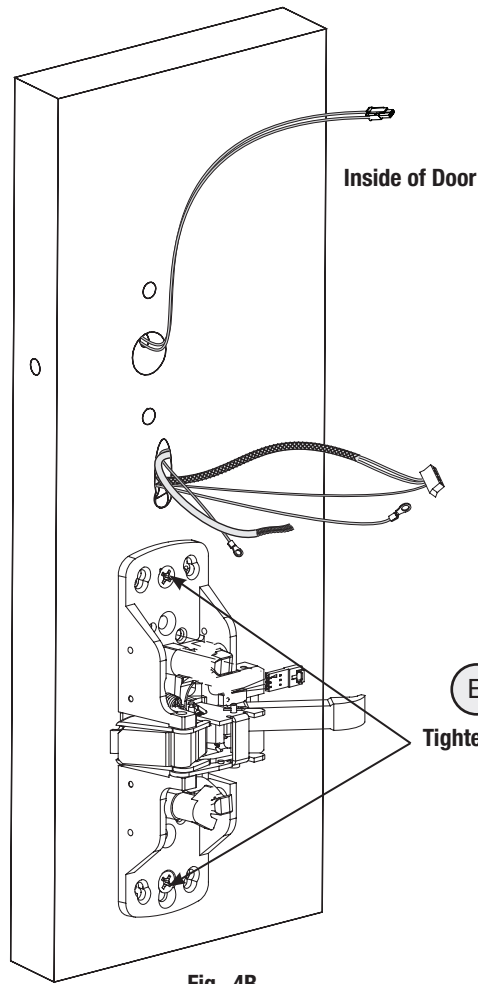

Fig. 4B
- E. Fully tighten (2) chassis through bolts (Fig. 4B).